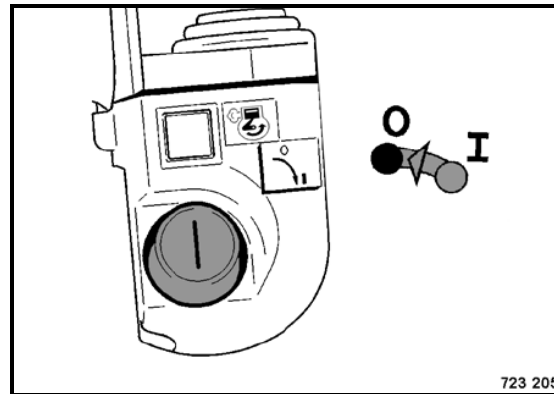

Fig. 62
- Turn the ignition switch to position "0" (Fig. 62) and pull it off.